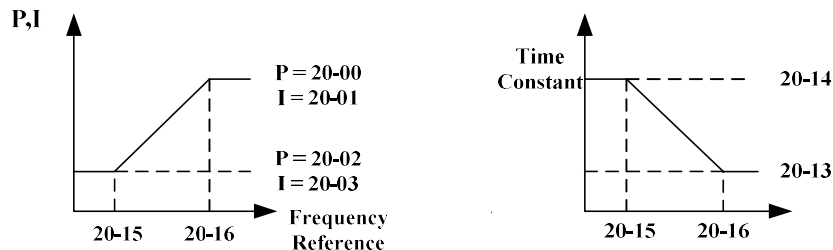

Figure 4.3.152 ASR Gain Settings in SLV Mode
- Observe the motor speed waveform and adjust gains simultaneously as shown in Figure 4.3.152.